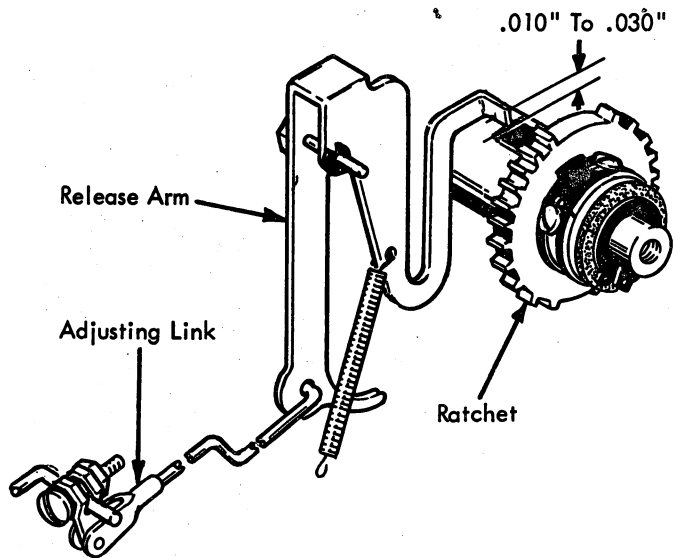

Figure 70. Shift Release Mechanism
5. **Shift Release** - Adjust the shift release link (Fig. 70). With the shift keylever bottomed, the shift release arm shall clear the shift clutch ratchet stop by .010" to .030". A balance between the two releasing points insures the proper adjustment.
NOTE: The shift bellcrank (Fig. 70) attached to the right end of the bail should be set prior to making the link adjustment. For proper leverage the bellcrank should operate with same over-center travel in both directions.